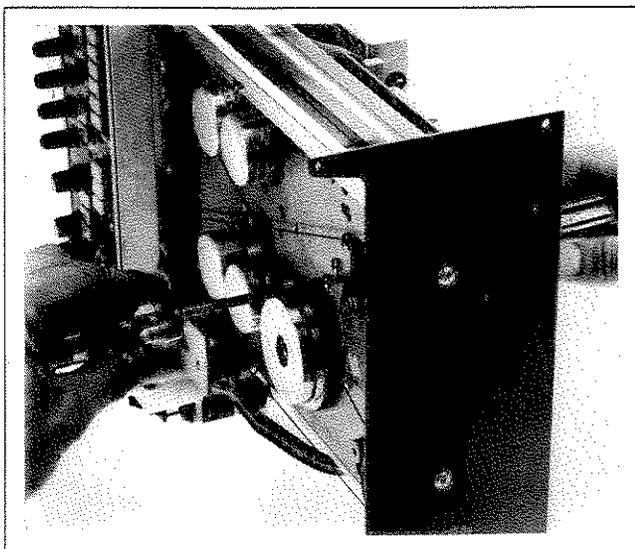

Figure 5-13. X-Axis Gear Train Backlash Adjustment
- b. With 1/4-inch hex driver to rear of machine and driver at front, loose screw retaining servo motor (Figure 5-13).